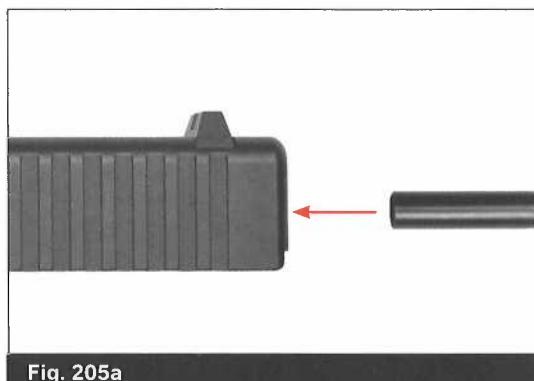

Fig. 205a
- The Firing pin channel liner is located inside the firing pin channel and normally should remain in the channel. Should it separate during cleaning and it is not damaged, simply insert with beveled edge toward breech. If it is damaged replace with a new channel liner. Removal is not recommended. However, if removal is needed use a 5/16 inch bolt. (Fig. 205a)